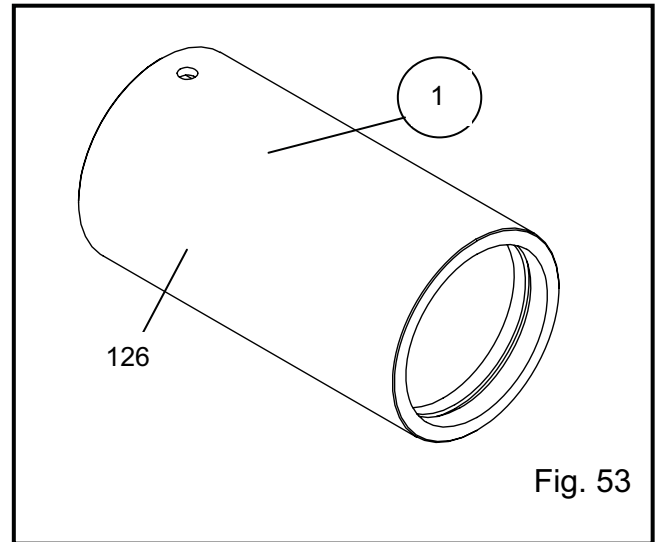

Fig. 53
1. The shaft sleeve (126) should be replaced if badly grooved or worn. Localized wear or grooving greater than 3/32 in. (2.4 mm) deep is cause for replacement, see Fig. 53.